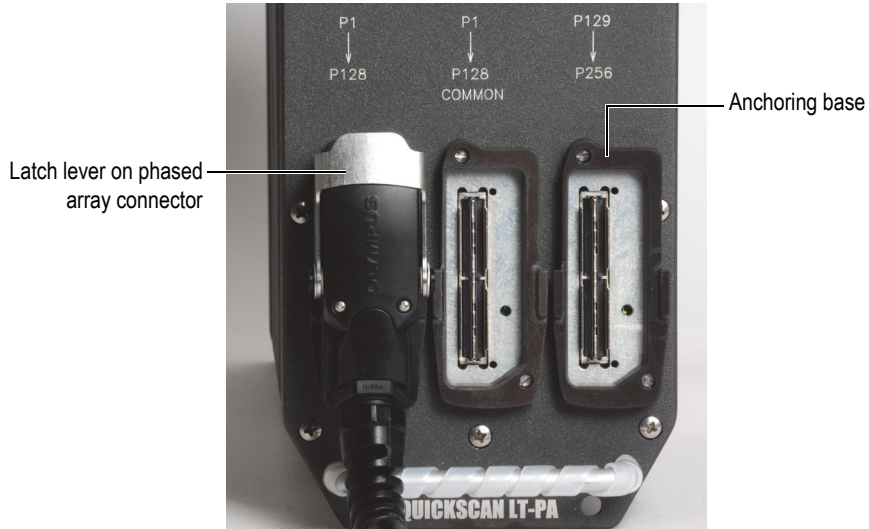

Figure A-1 Phased array—Latched PA connector
Evident has developed a phased array (PA) connector that uses a latch to attach it to the instrument. This connector offers water resistance and is easier to connect and disconnect than the older type of connector (see Figure A-1 on page 73).